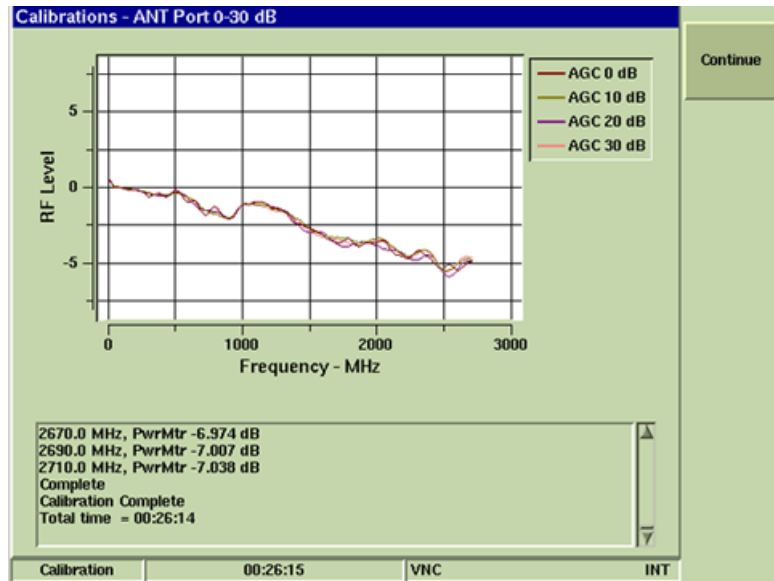

Fig. 4-25 ANT Port 0-30 dB Signal Traces
- When the ANT Port 0-30 dB Calibration Procedure is complete, verify Calibration Complete is displayed in dialog box. Verify signal traces on Test Set resemble the signal traces shown in Fig. 4-25.